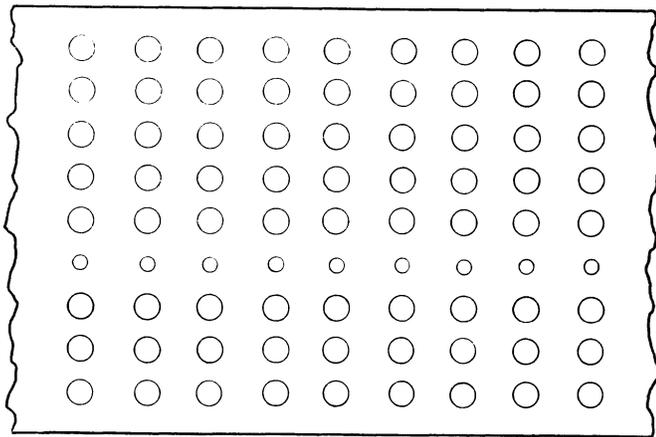

Figure 5-11. Eight-Level Tape,
The amplifiers are adjusted by monitoring the sprocket and code channel while the reader is slewing a test tape that contains all holes punched (figure 5-11) and setting the on-off ratio (figure 5-6j) of the output signals. An oscilloscope, such as a Tektronix 545 with a type CA plug-in, is recommended to be used. The oscilloscope will be used in the chopped mode and with vertical amplifier No. 1 connected to the code hole amplifier and vertical amplifier No. 2 connected to the sprocket hole amplifier. The oscilloscope should be synchronized from the channel being adjusted.
- c. Load a reel of test tape, (Section III); with all holes punched as illustrated in Figure 5-11.